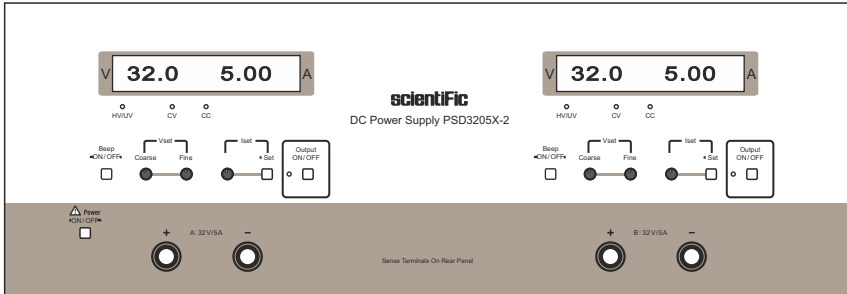

Fig.11 Load application with 2 wire Measurement
**Power ON:** Switch ON the unit using power switch ①, the indicator for CV ⑦, 3 digit voltage reading display ②, 3 ½ digit current reading display ④, glow.
**Voltage Setting:** Set the required output voltage on voltage display ② using coarse ⑭ & fine ⑬ control adjustment potentiometers. The voltage is adjusted from 0 to 32.0 V (approx.). The fine control adjustment ⑬ is up to 2.0 V, while keeping coarse potentiometer ⑭ at any position.
**Current Limit Setting:** Press & hold Set push button ⑪. Set output current on current display using Iset control potentiometer ⑫. The output current limit can be varied from 0.00 A to 5.00 A (approx.) using Iset control potentiometer ⑫.
**Output Status:** For ON/ OFF of output, use Output ON /OFF push button ⑨. Normally output is OFF & when push button is pressed output is turned ON.
**Connecting The Load:** Output voltage sense input for the power supply unit. Ensure that when using 2- wire output, the shorting wires at sense block on rear panel are fully tightened so that output terminals & sense terminals are shorted. This will ensure the output regulation within specifications & proper functioning of power supply. Fig.11 shows Load application with 2 wire Measurement.